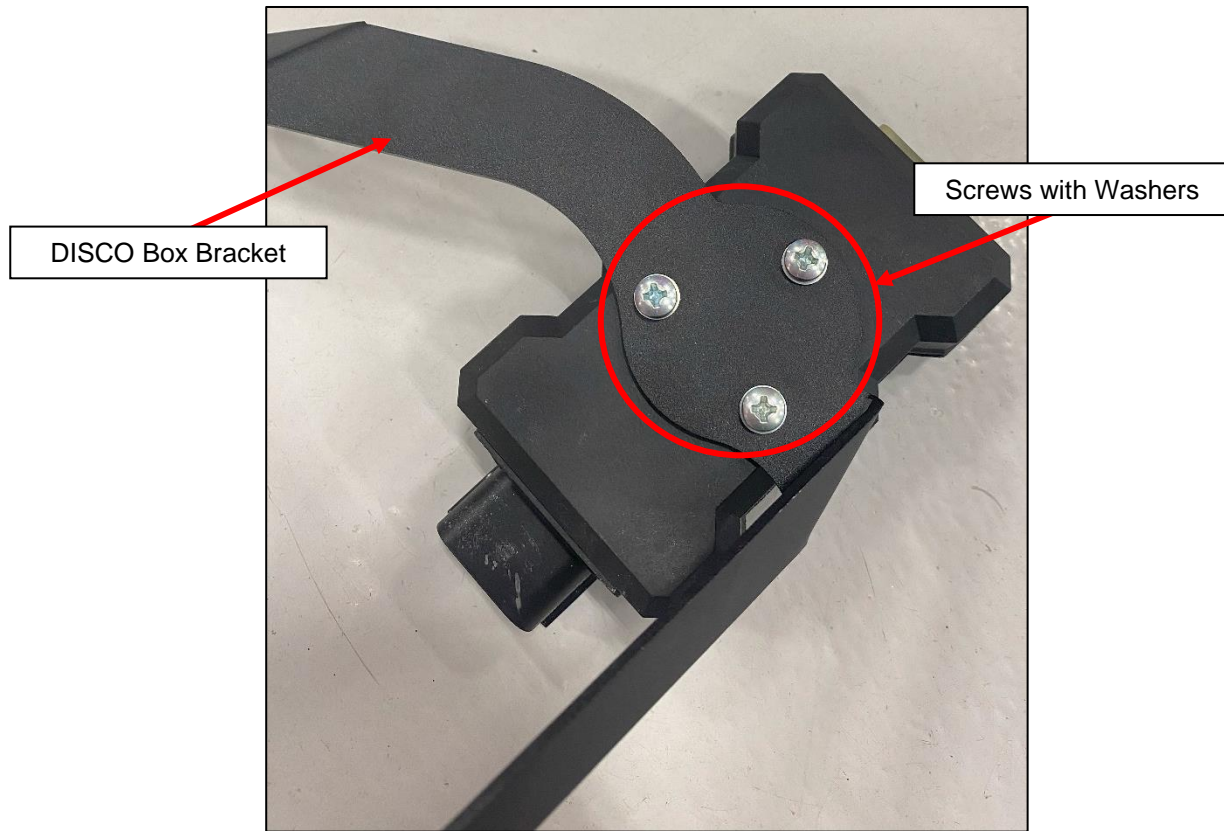

Figure 5
7. After the Rotary Switch is set, reattach the top of the enclosure and secure with the (6) six Philips head screws.
8. Locate the DISCO Box Bracket, (3) three screws, and (3) three washers. Secure the DISCO Box to the Bracket with the hardware as shown below. *Figure 5.*